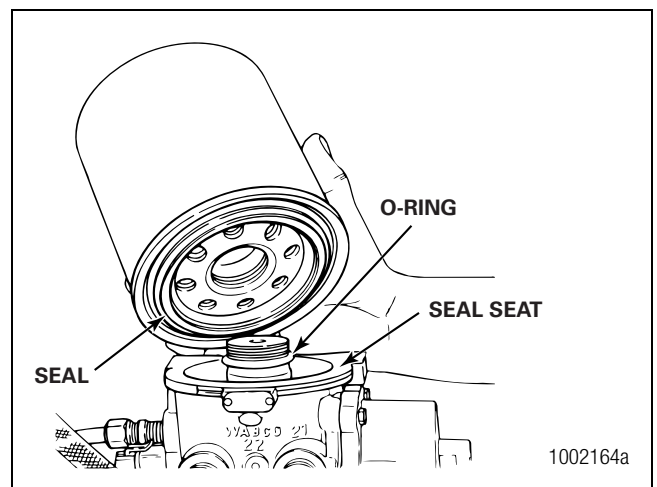

Figure 2.2
NOTE: If the seal seats are damaged so badly that a tight seal cannot be maintained, replace the air dryer. Refer to Figure 2.2.
7. Thread replacement cartridge onto the base until the seal touches the base. Then, tighten the cartridge **ONE** additional turn. **DO NOT OVERTIGHTEN.** Figure 2.2. If the cartridge will not fully spin on the dryer, the wrong cartridge is being used (see IMPORTANT NOTE).